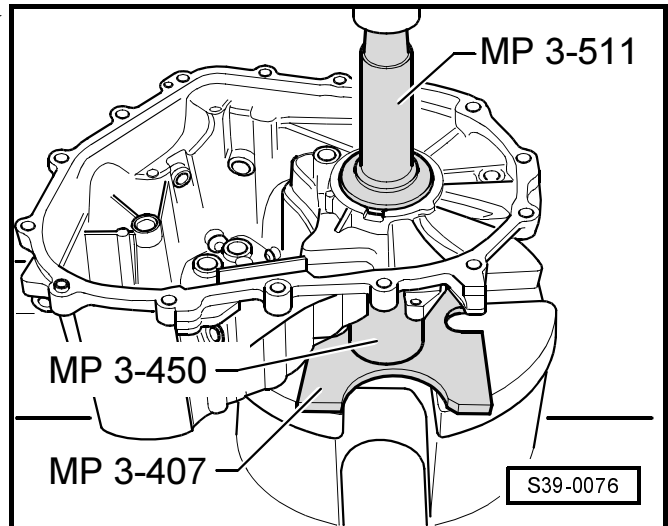

Fig. 3: Removing inner ring/tapered-roller bearing ▶
- remove ⇒ Fig. 3 in **39-2** page 4